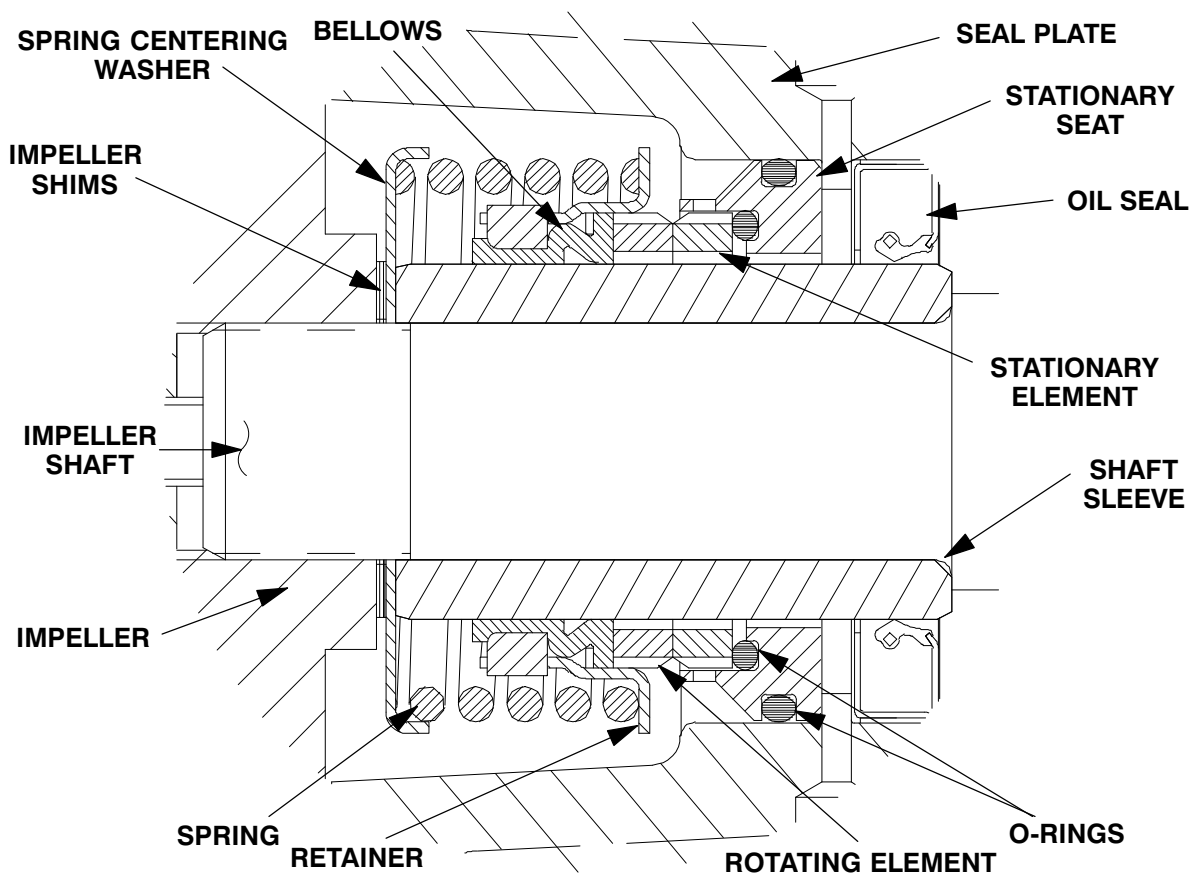

Figure E-3. Seal Assembly
To ease installation of the seal, lubricate the O-rings and shaft sleeve (11) with water or a very **small** amount of oil, and apply a drop of light lubricating oil on the finished faces. Assemble the seal as follows, (see Figure E-3).